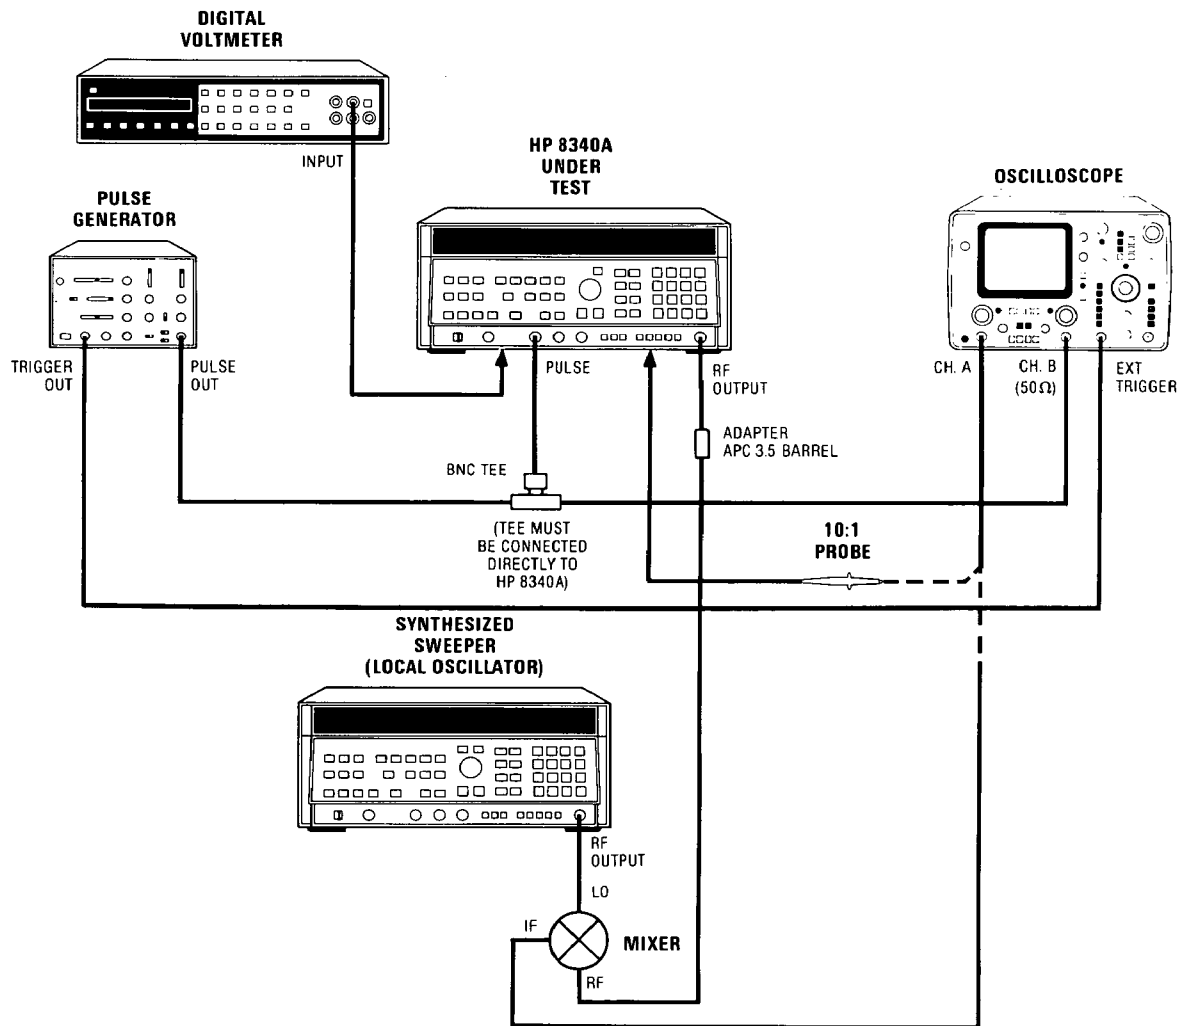

Figure 5-63. Pulse Adjustment Setup.
1. Connect equipment as shown in Figure 5-63. Allow at least 30 minutes warmup.